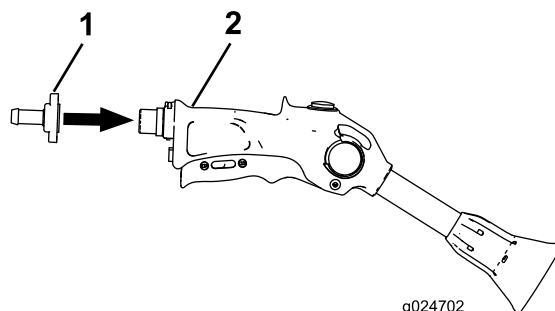

Figure 31
1. Assemble the spray gun (Figure 31).